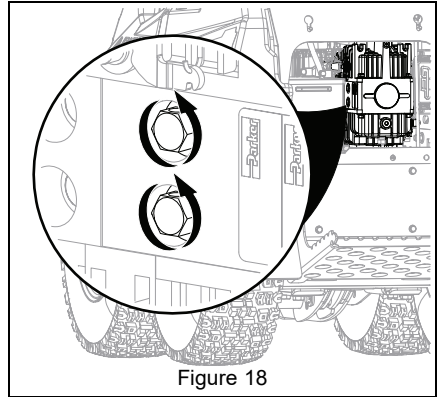

Figure 18
2. Turn both bypass valves two complete turns counter-clockwise to the bypass position. See Figure 18.